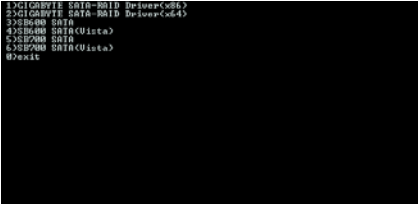
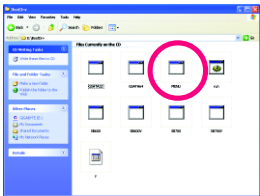

Figure 2
Figure 3
Step 2: When the controller menu (Figure 2) appears, remove the startup disk and insert the blank formatted disk. Select the controller driver by pressing the corresponding letter from the menu. For example, from the menu in Figure 2, to install Windows XP to your RAID/AHCI hard drives, select **(5) SB700 SATA** for the AMD SB700 SATA controller. To install Windows Vista to your RAID/AHCI hard drives, select **(6) SB700 SATA (Vista)** for the AMD SB700 SATA controller. Your system will then automatically zip and transfer this driver file to the floppy disk. Press <O> to exit when finished.
Use an alternative system and insert the motherboard driver disk. From your optical drive folder, double click the **MENU.exe** file in the **BootDrv** folder (Figure 3). A command prompt window will open similar to that in Figure 2.